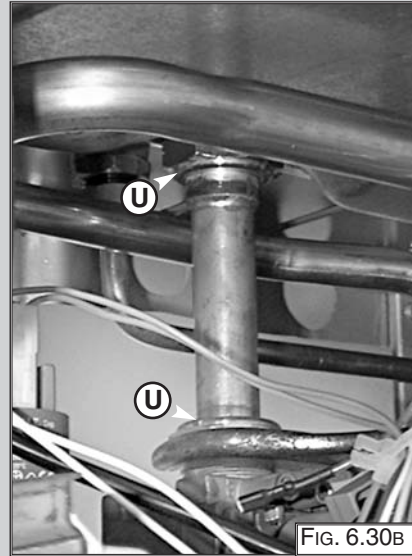

FIG. 6.30B
3. Release the nuts "U" (FIG. 6.30B);